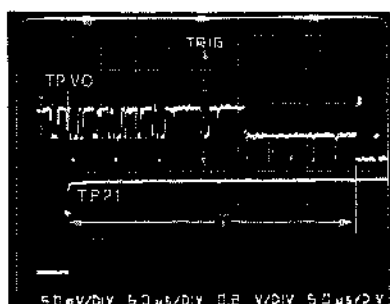

Fig. 22
- Play-back (SP) the colour part of the alignment tape.
- Adjust R225 in the servo section PI01 such that 6.5 $\pm$ 1 lines prior to the frame sync. pulse are visible (Fig. 22).